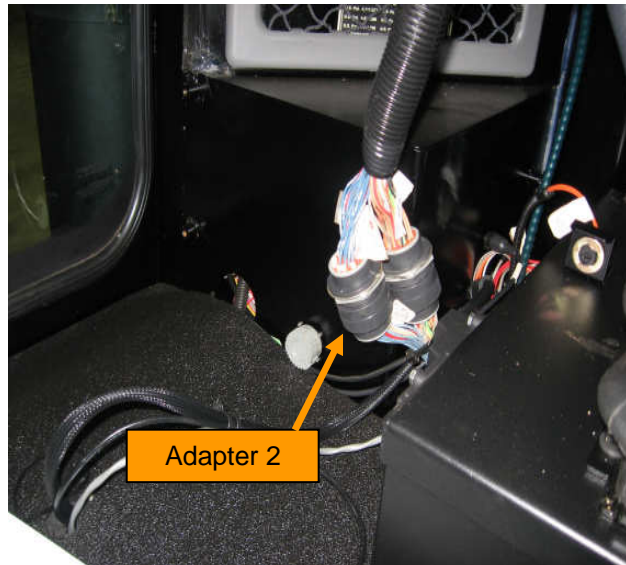

Fig. 1 Under the Arm Rest
1. Locate the boom switch cable under the right armrest. (Fig. 1) This cable will be a round 31 pin connector labeled Adapter 2.